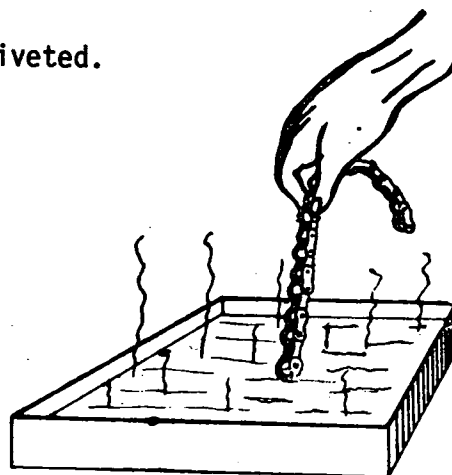

Fig. 6
- a) Put the chain in hot oil until all its parts are soaked (Fig. 6).